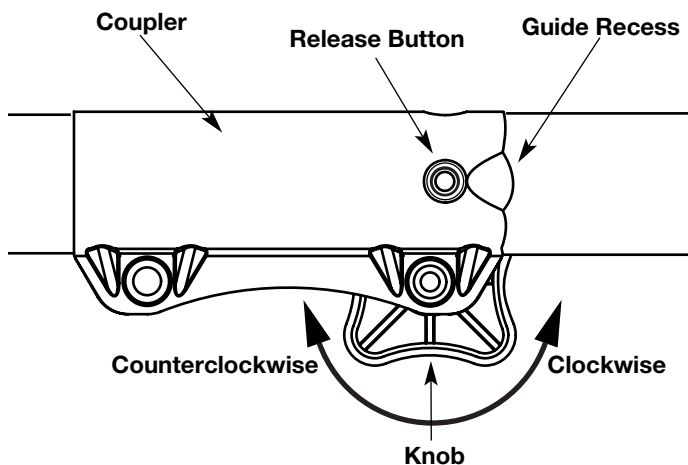

Fig. 1
1. Turn the knob counterclockwise to loosen (Fig. 1).
2. Press and hold the release button (Fig. 1).
2. Turn the knob counterclockwise to loosen (Fig. 1).
**NOTE:** Aligning the release button with the guide recess will help installation (Fig. 1).